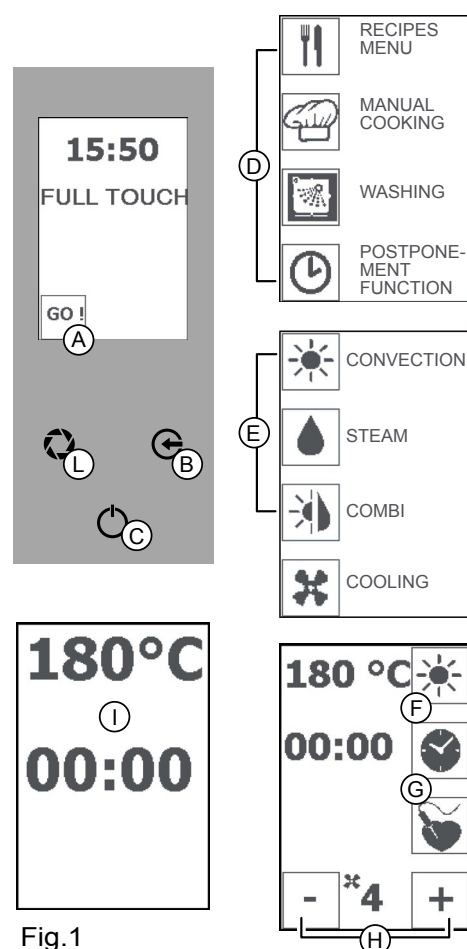

Fig.1
**After 3 minutes of inactivity the temperature and cooking time appear on the screen (Fig 1/I). Press the "ENTER" key to return to the screen with the set parameters.**
**"PAUSE" function: Press the "ENTER" key (Fig 1/C) to interrupt the function in progress and press the "ENTER" key again (Fig 1/C) to resume cooking**
Press the "ENTER" key (Fig 1/C) to interrupt cooking.
Press the "ESC" key (Fig 1/B) several times to return to the Home Page.
Press the "GO!" icon to activate the main menu (Fig 1/A).
Press the "MANUAL COOKING" icon (Fig 1/D) and select the cooking mode: CONVECTION (Fig 1/E).
Press the "TEMPERATURE" button (Fig 1/F) and use the "MINUS" and "PLUS" buttons to set the temperature to between 25 °C and 40 °C. Press "TEMPERATURE" to confirm.
Press the "TIME" button (Fig 4/G) and use the "MINUS" and "PLUS" buttons (Fig 1/H) to set the time to infinite, 1 minute or 09:00 hours/minutes.
Press the "ENTER" key (Fig 1/C) to interrupt the process.
**“PAUSE” function: Press the “ENTER” key (Fig 1/C) to interrupt the function in progress and press the “ENTER” key again (Fig 1/C) to resume cooking**